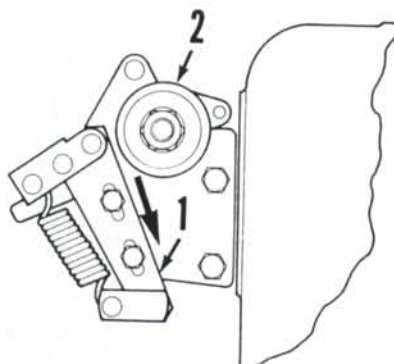

Fig. 254—View of control linkage spring carrier (1) and friction lever (2). Refer to text for adjustment procedure.
Loosen the two bolts retaining spring carrier (1—Fig. 254) on side of control housing. Move linkage control lever rearward until lift linkage is fully raised and pressure relief valve opens. Then move spring carrier in direction of arrow (Fig. 254), which rotates friction lever (2), until pressure relief valve closes. Hold spring carrier in this position and tighten retaining bolts. To check setting, move control lever to SELECT position; relief valve must open. Release control lever; it must return to full lift position and relief valve must close.